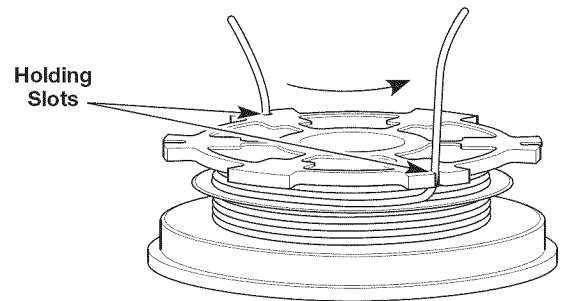

Fig. 14
3. Insert the two 6-inch sections into the two .095 holding slots (Fig. 14).
4. Insert the two 6-inch sections into the two .095 holding slots (Fig. 14).